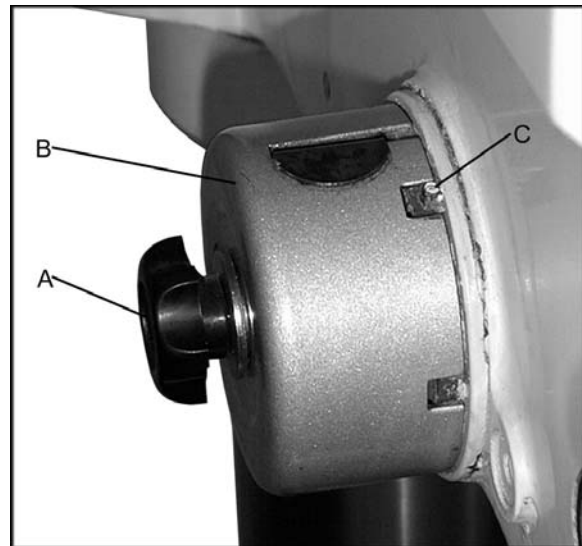

Figure 12
1. Do NOT remove the spring cap (B, Fig. 12).
2. Loosen knob (A, Fig. 12) just enough to rotate the spring cap past the notch (C, Fig. 12).
4. Re-tighten the knob (A, Fig. 12).